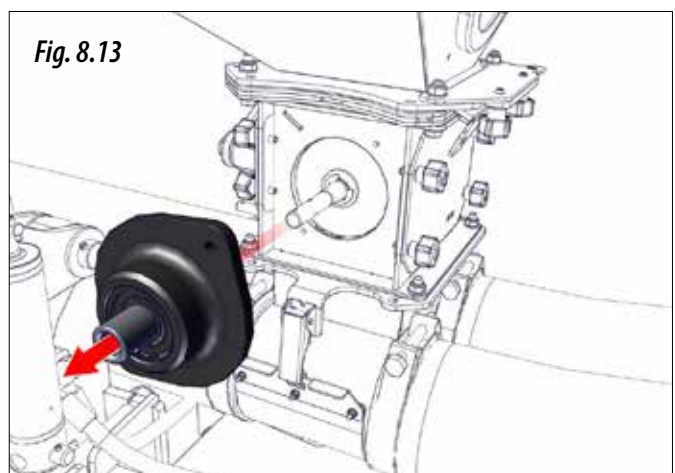
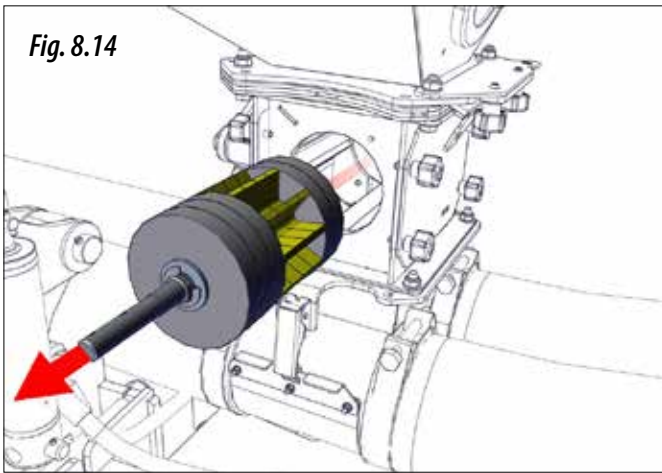

Fig. 8.13
Fig. 8.14
- 3- Remove the side support (Fig. 8.13) and remove the roller (Fig. 8.14).